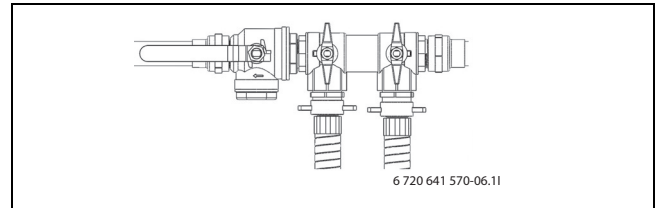

Fig. 27 Filling units in filling position
- ▶ Turn the valves on the filling unit so that they are in filling position (→ Figure 27).